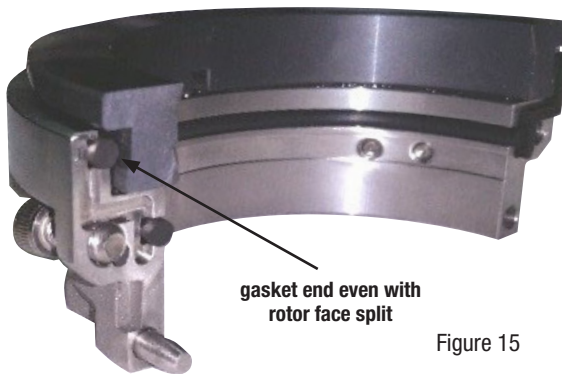

Figure 15
- 5.9 Slide the rotor face radially inward within the seal drive until the drive pin sits flush against the end of the rotor face drive pin slot. Ensure the rotor face gasket ends do not protrude past the rotor face split joint ends (adjust gasket ends as necessary). See Figure 15.